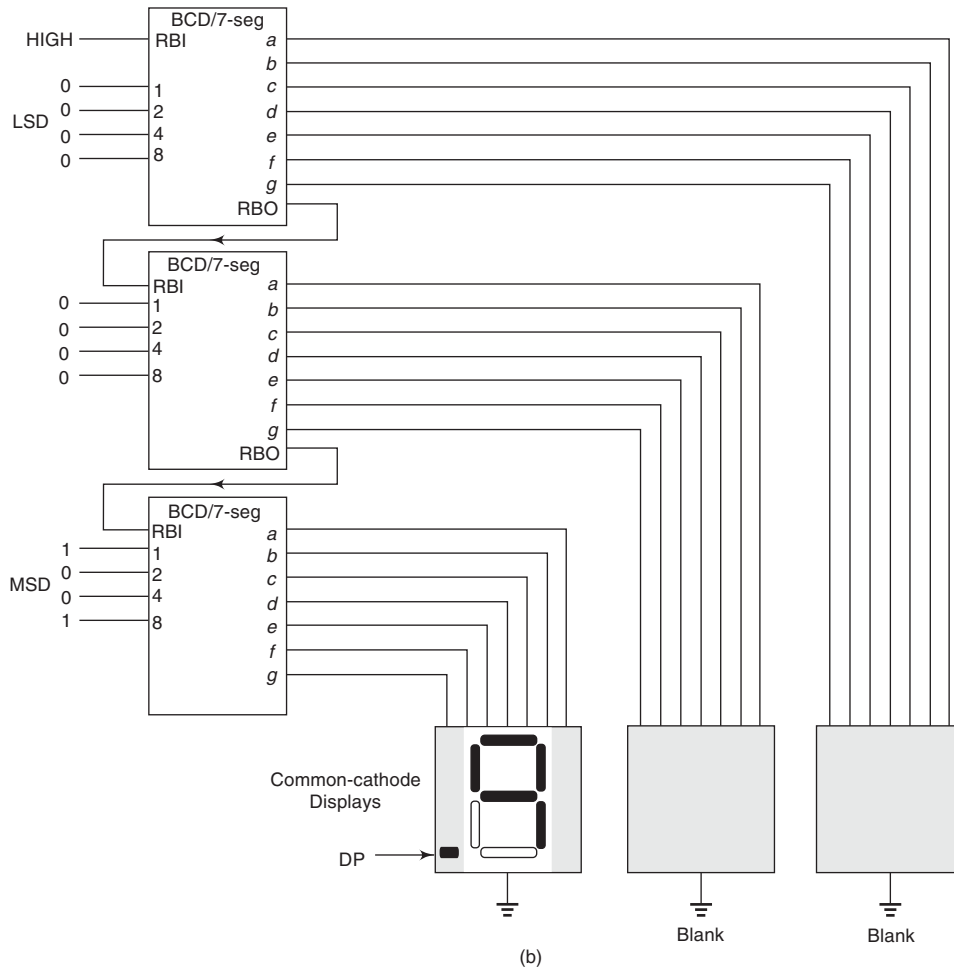

Fig. 11.20 Zero Suppression Logic; (a) Leading Zero and (b) Trailing Zero.
and the blanking input is HIGH. Each lower-order digit position is blanked if a 0 code appears on its BCD inputs, and the next higher-order digit is a 0 as indicated by a HIGH on its blanking output. The ripple blanking output of any decoder indicates that it has a BCD 0 on its inputs, and all higher-order digits are also 0. The blanking output of each stage is connected to the blanking input of the next lower-order stage. This is shown in Fig. 11.20(a).
Trailing zero suppression: For the decimal (fractional) portion of the display, trailing zero suppression is used. The lowest-order digit is blanked if it is 0, and each digit that is 0 and is followed by 0's in all the lower-order positions is also blanked. This is shown in Fig. 11.20(b).
As an example, in Fig. 11.20(a), the highest-order digit is 0, which is, therefore, blanked. Also, the next
digit is a 0, and because the highest-order digit is 0, it is also blanked. The remaining two digits are displayed. In Fig. 11.20(b), the lowest-order digit is blanked because it is a 0. The next digit is also 0 and its blanking input is HIGH, so it is blanked. The highest-order digit (9) is displayed. *The blanking output of each decoder stage is connected to the blanking input of the next higher-order stage.*